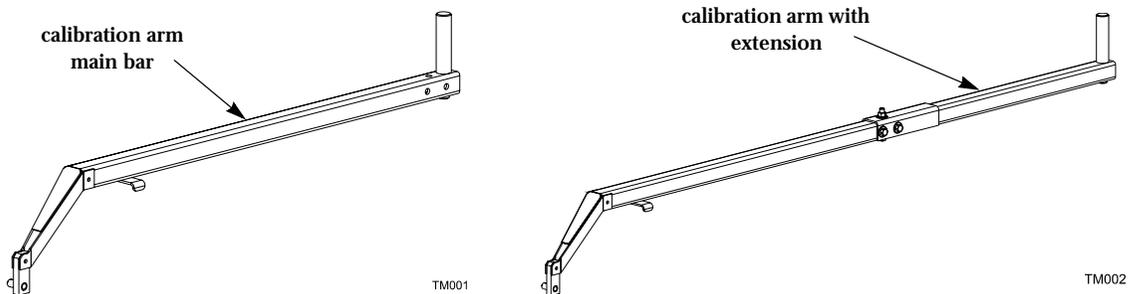

Figure 2-3: Calibration Arm
- 5 Enter the Torque Module calibration value. Refer to Figure 2-3.